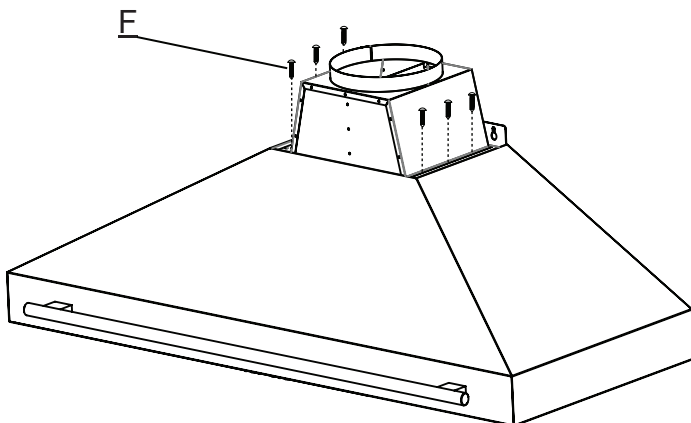

Figure 5.
8. Install the air outlet adapter over the hood using the provided M4  $\times 0.472"$  screws (F). Figure 5.